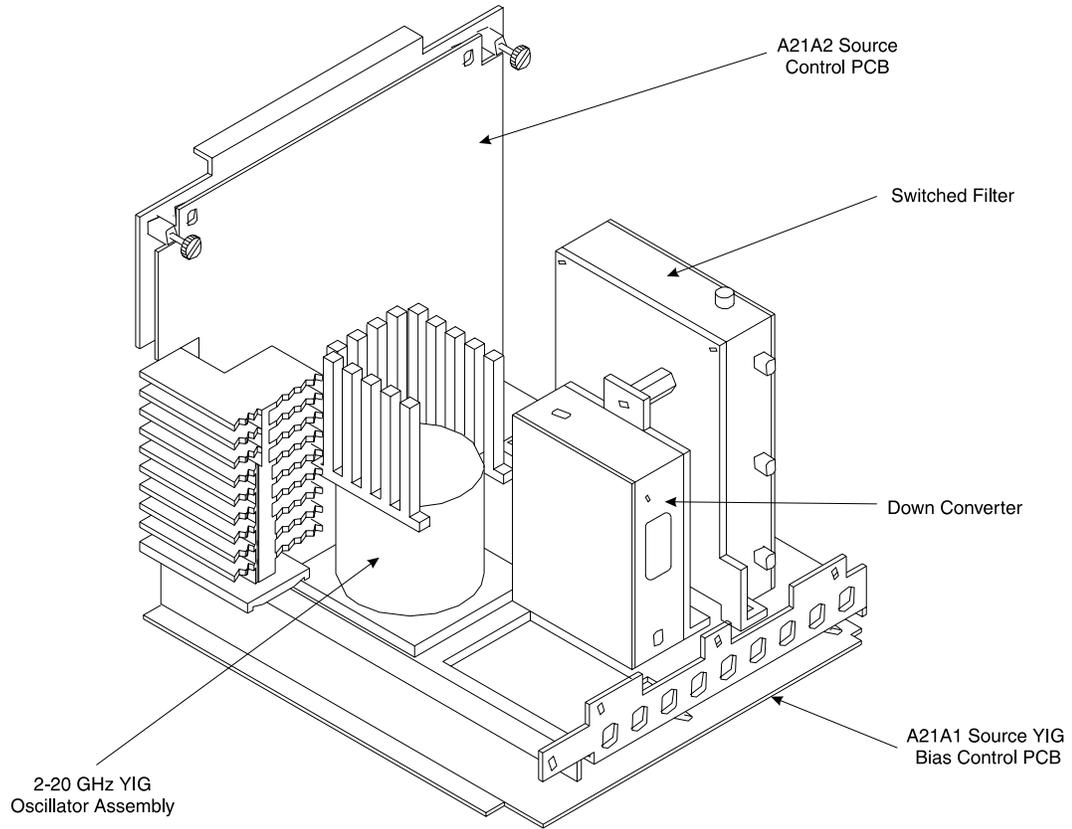

Figure 8-15. Signal Source Module Assemblies Removal Details
- Step 4. Remove the screw that fastens the front apron of the source module chassis to the heatsink of the A21A1 PCB. See Figure 8-15.